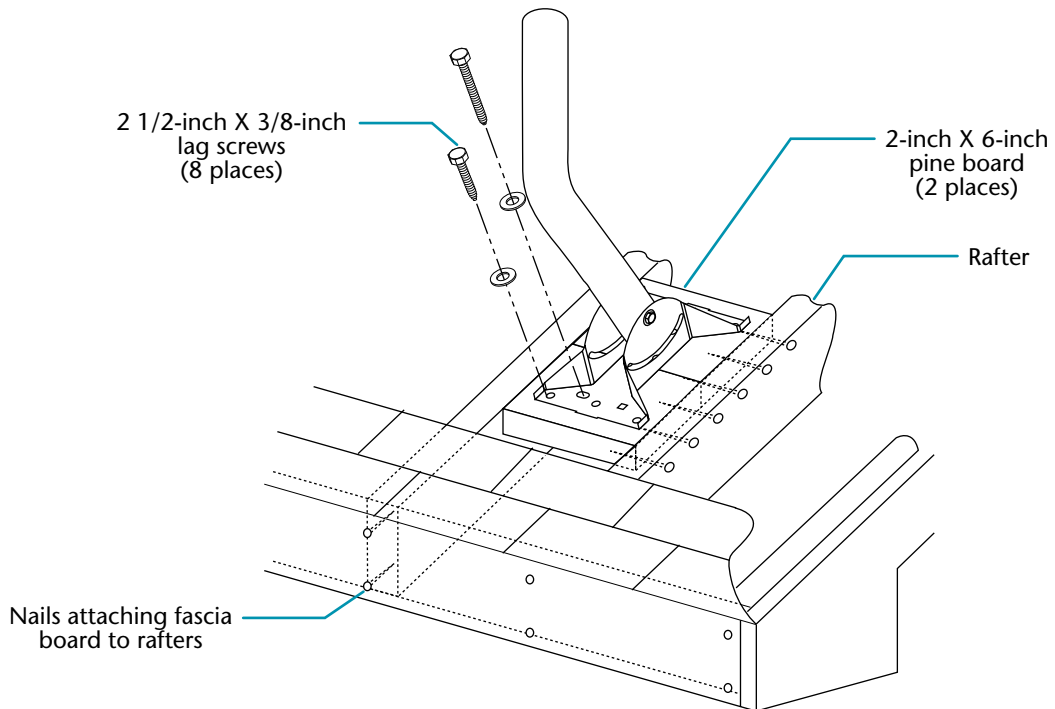
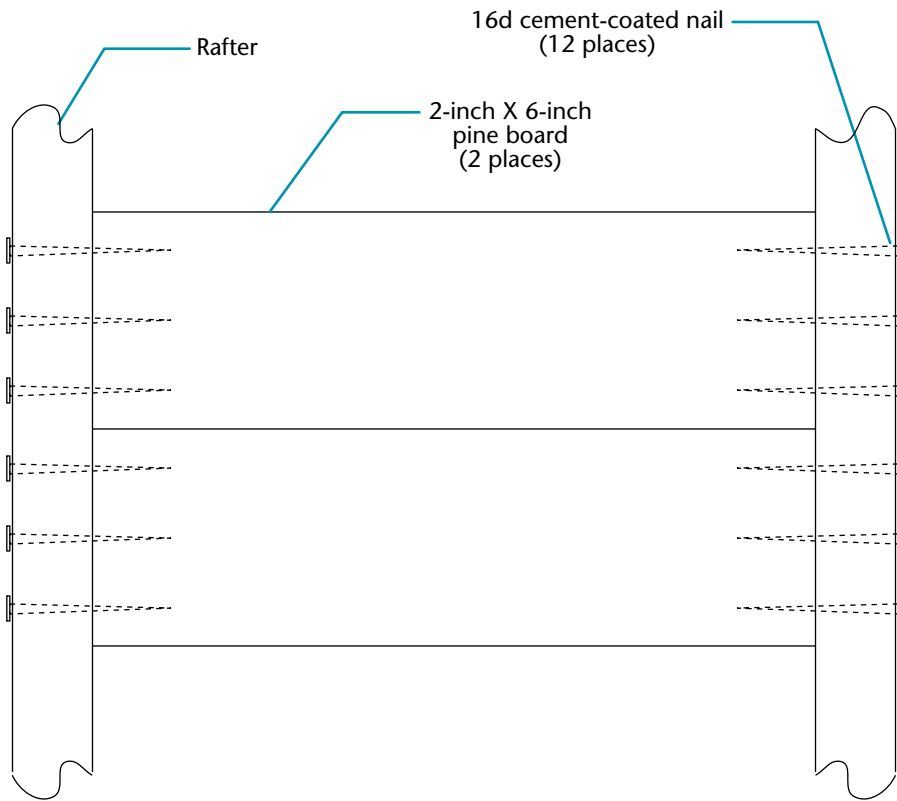

Figure 4-39. Using a roof as the mounting surface
Figure 4-40. Installing the reinforcing boards
1. At the location where you will be installing the universal mount, install two 2-inch X 6-inch pine boards between rafters underneath the plywood sheathing (see figures 4-39 and 4-40). Use 12 16d cement-coated nails as shown in figure 4-40.